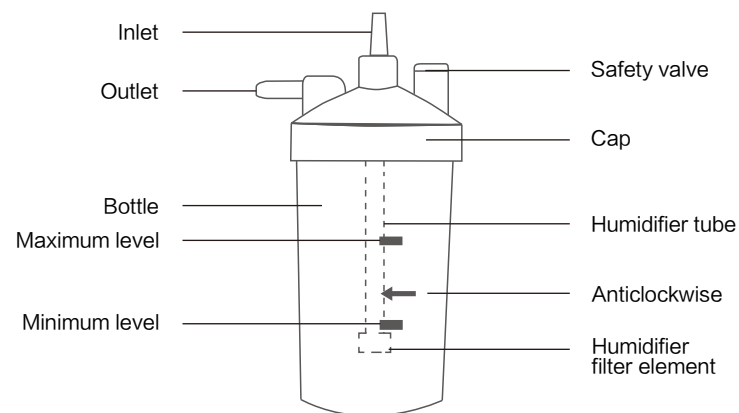

Figure 5: Humidifier Components
1. Unscrew the bottle from the humidifier clockwise. Fill the bottle with pure water (or distilled water) to the level between MAXIMUM and MINIMUM. Do not fill humidifier bottle over MAXIMUM level. (Figure 5)